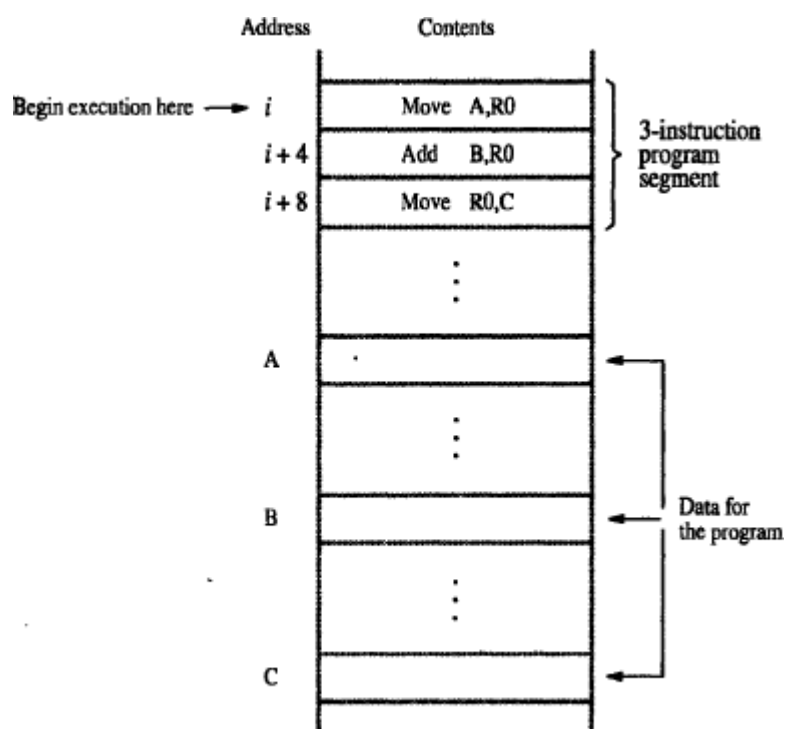

Figure 2.8 A program for $C \leftarrow [A] + [B]$.
- Initially, the address of the first instruction is loaded into PC (Figure 2.8).